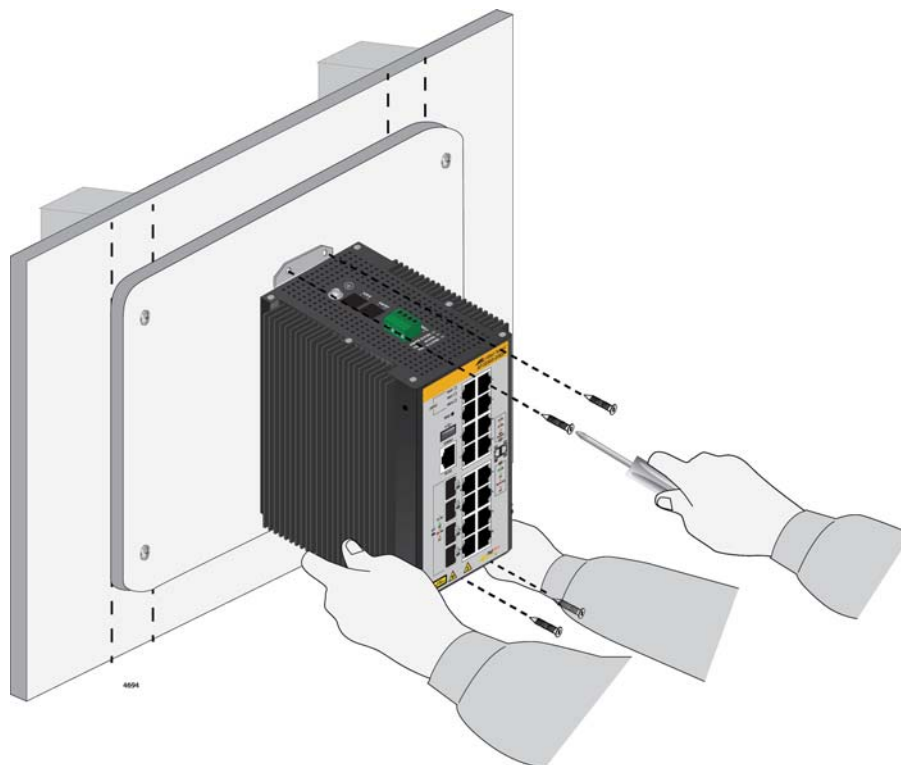

Figure 26. Attaching the Switch to the Plywood Base
4. Have another person hold the switch on the plywood base on the wall while you secure it with four screws (not provided). Refer to Figure 26 on page 78.
- The switch must be oriented as shown in Figure 26. Do not install the switch horizontally or upside-down.